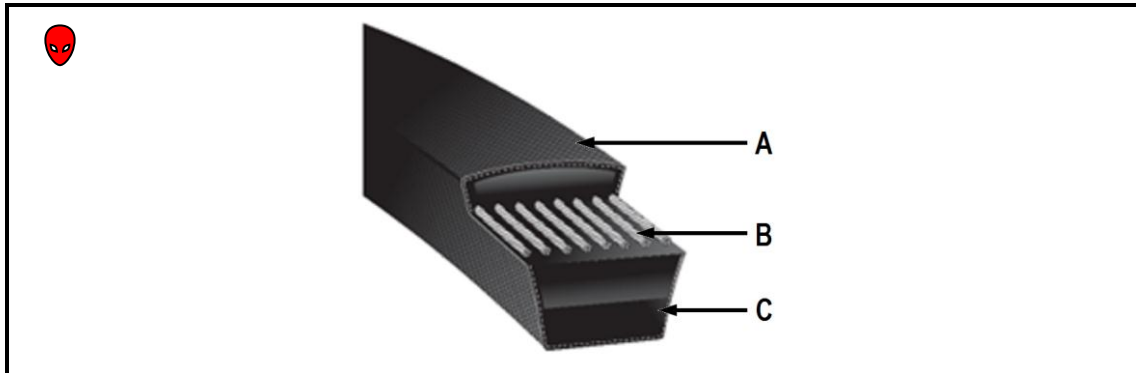

FIGURE 3
9.1 FIGURE 3 below shows a cross-sectional view of a V-belt. Name the parts labelled A, B and C. Write only the answer next to the letter (A–C) in the ANSWER BOOK.